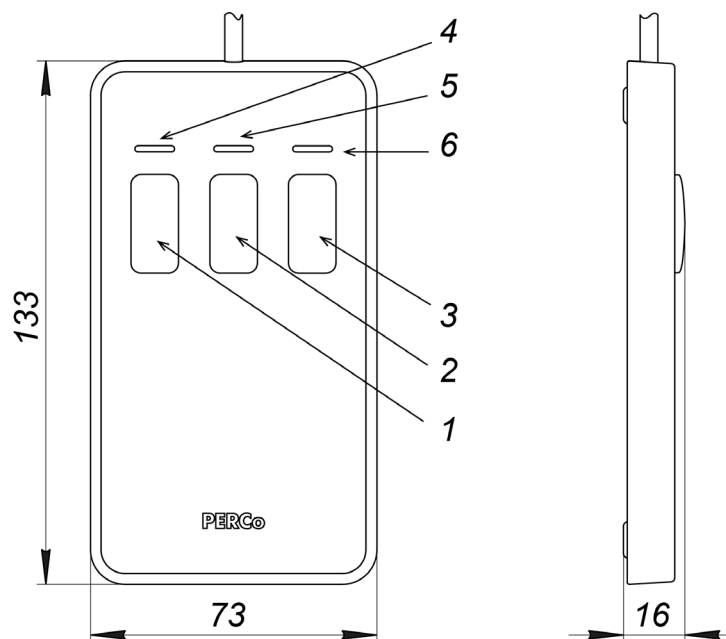

Figure 4. Overall view and dimensions of the RC panel
The RC panel (12) is designed as a small desktop device in a shockproof ABS plastic case and is intended for setting and indicating operation modes when the turnstile is controlled manually. The overall view of the RC panel is shown in Fig. 4.